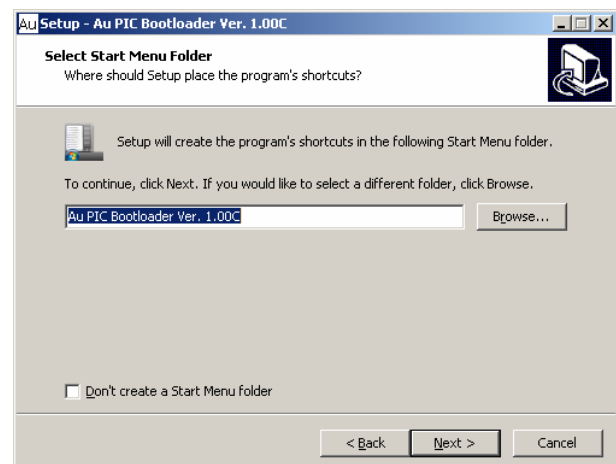

Figure D-5
- “Select Start Menu Folder” window show up, use default setting “AU PIC Bootloader”, then click “next” (Figure D-5).